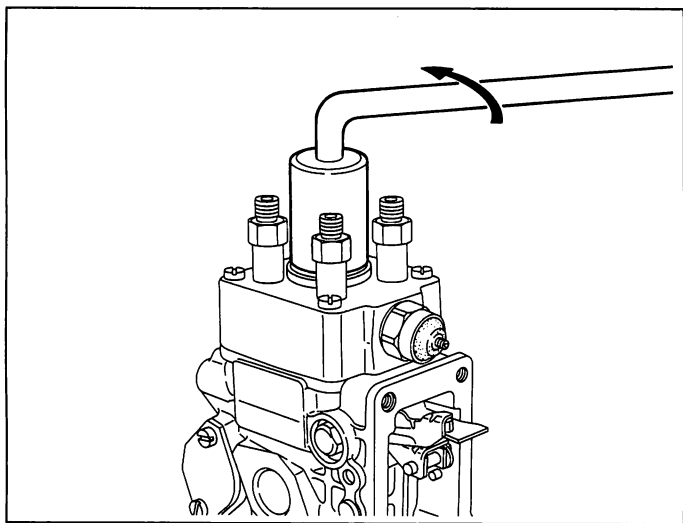

Fig. 14 Removing the plug
15. Loosen the plug (130) using the socket wrench (157914-2500), and then remove it together with the O-ring (129). (Fig. 14)